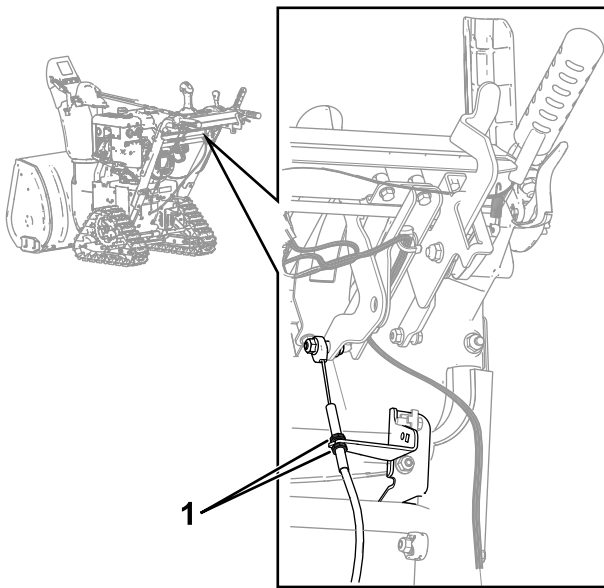

Figure 5
- B. Loosen the 2 nuts on the speed cable resting on the speed-selector-lever bracket, located under the control panel (Figure 5).